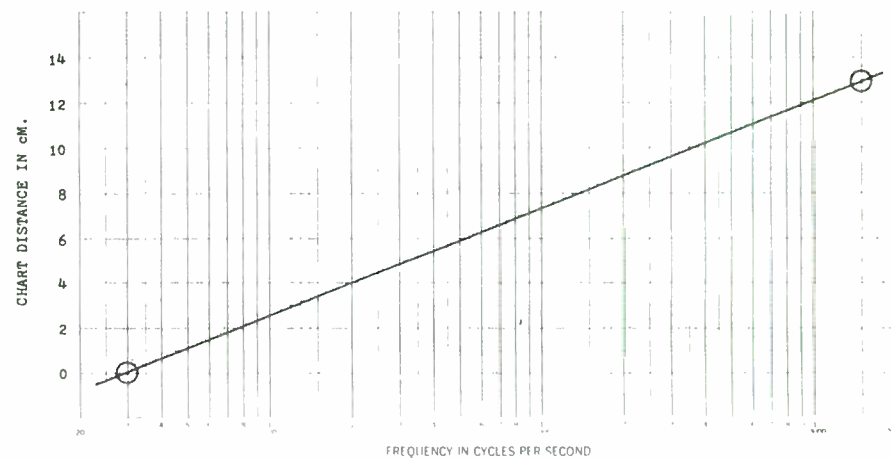

FIGURE 3: Frequency calibration for recorder using CBS STR-140 record.
- Using a sheet of audio frequency graph paper (K&E No. 46 6882), I constructed a calibration graph which related chart distance to frequency (see Fig. 3).